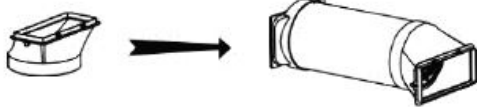

Fig. 1
1. Attach the slotted end to the end of the hose by stretching the end and turning it until it is firmly attached (at least 3 full turns) (Fig. 1).